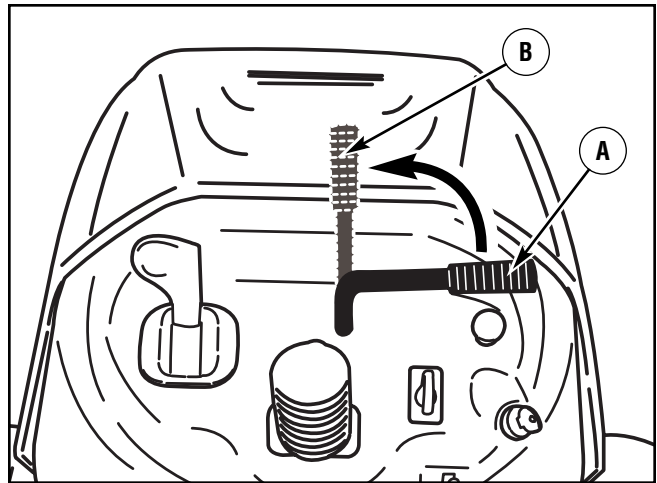

Figure 10: Blade rotation control (42" Models Only)
The **blade rotation control** is located above the steering wheel (Figure 10). Use the **blade rotation control** to engage the blades.
2. When you ride on a sidewalk or road, move the deck lift lever to the highest position and disengage the blades (Figures 10, 11).